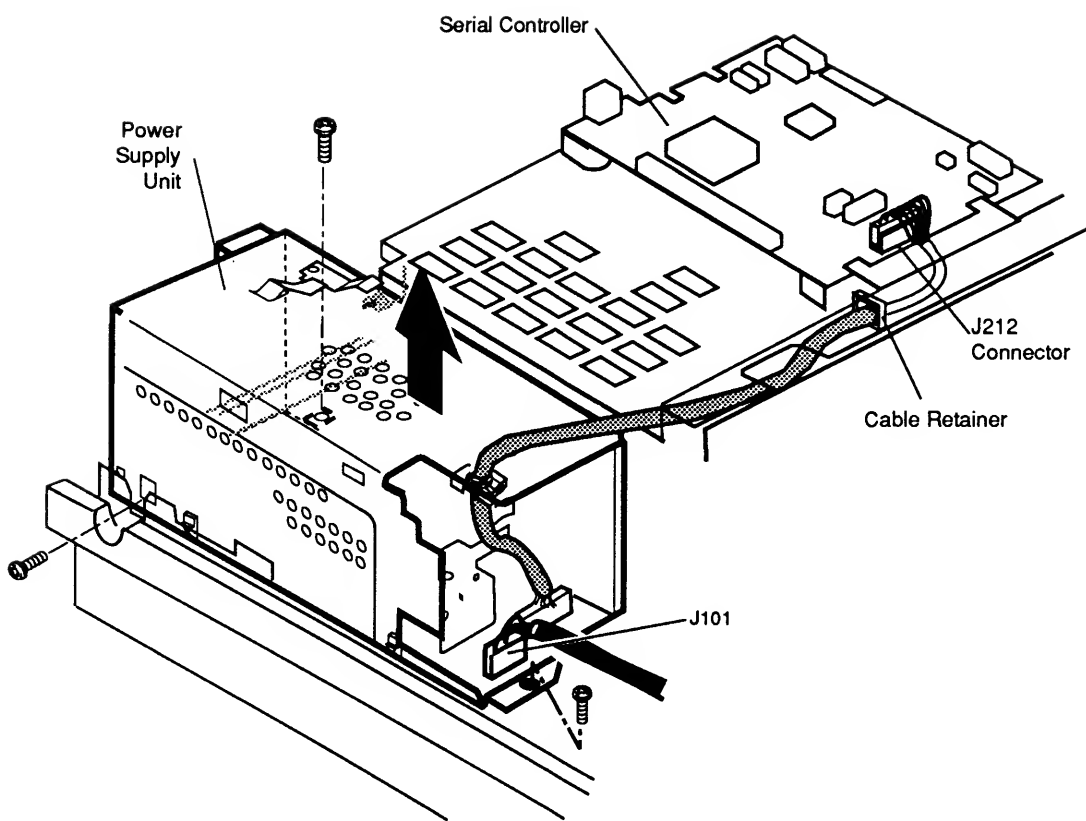

Figure 2-23 Power Supply Unit (LaserWriter LS/L)
2. Disconnect connector J212 from the serial controller, and remove the cable from the black cable retainer near J212 (**Figure 2-23**).
3. Disconnect connector J101 from the power supply unit (**Figure 2-23**).
4. Remove the three silver-colored screws that secure the power supply unit to the printer chassis (**Figure 2-23**).